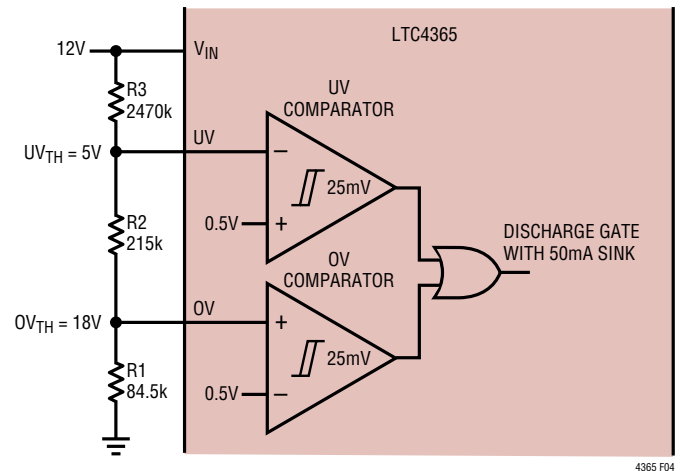

Figure 4. UV, OV Comparators Monitor 12V Supply
The LTC4365 provides two accurate comparators to monitor for overvoltage (OV) and undervoltage (UV) conditions at V_{IN} . If the input supply rises above the user adjustable OV threshold, the gate of the external MOSFET is quickly turned off, thus disconnecting the load from the input. Similarly, if the input supply falls below the user adjustable UV threshold, the gate of the external MOSFET also is quickly turned off. Figure 4 shows a UV/OV application for an input supply of 12V.
The external resistive divider allows the user to select an input supply range that is compatible with the load at V_{OUT} . Furthermore, the UV and OV inputs have very low leakage currents (typically $< 1nA$ at $100^\circ C$), allowing for large values in the external resistive divider. In the application of Figure 4, the load is connected to the supply only if V_{IN} lies between 5V and 18V. In the event that V_{IN} goes above 18V or below 5V, the gate of the external N-channel MOSFET is immediately discharged with a 50mA current sink, thus isolating the load from the supply.
The following 3-step procedure helps select the resistor values for the resistive divider of Figure 4. This procedure minimizes UV and OV offset errors caused by leakage currents at the respective pins.
The example of Figure 4 uses standard 1% resistor values. The following parameters were selected: